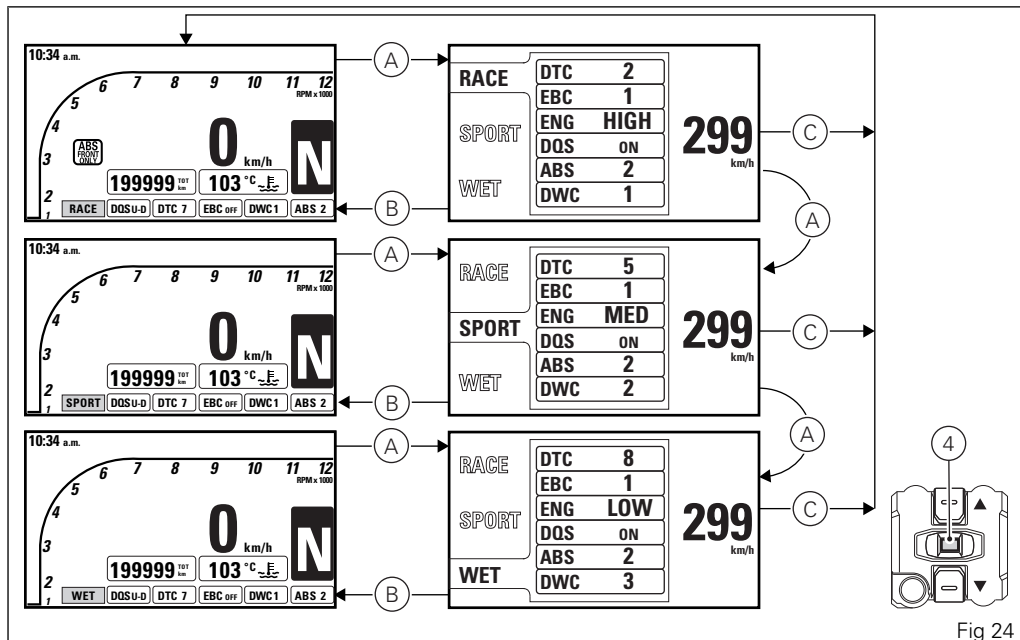

Fig 24
riding mode is highlighted and the associated parameters are displayed (A, Fig 24).
Once the desired riding mode is highlighted, confirm the selection by holding down the CONFIRM MENU button (4) for 2 seconds: the new riding mode selection is saved and the Standard Screen is displayed (B, Fig 24).
Once the desired riding mode is highlighted, if the CONFIRM MENU button (4) is not pressed within 10 seconds, the new riding mode selection is not stored and the Standard Screen is displayed (C, Fig 24).